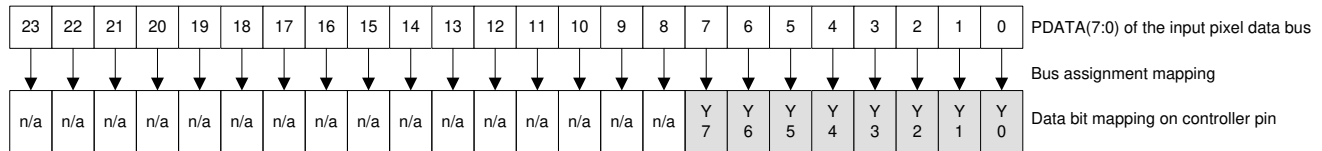

图 6-9. BT.656 Interface Mode Bit Mapping
- Calculate clock jitter (in ns) using this formula: Jitter = $[1 / f_{clock} - 5.76 \text{ ns}]$. Clock jitter must maintain setup and hold times. BT.656 data bits must be mapped to the DLPC3470 PDATA bus as shown in 图 6-9 shows BT.656 bus mode YCbCr 4:2:2 source PDATA (23:0) mapping.
- The BT.656 interface accepts 8-bits per color, 4:2:2 YCbCr data encoded per the industry standard through PDATA(7:0) on the active edge of PCLK. See 图 6-9.